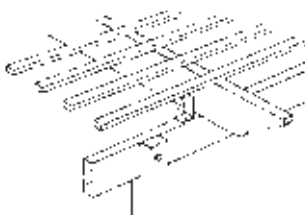

Fig 9 Nail battens across the rafters.
- Battens can be fixed across the rafters to hold shade cloth, Laserlite or even support climbing plants (Fig 9).